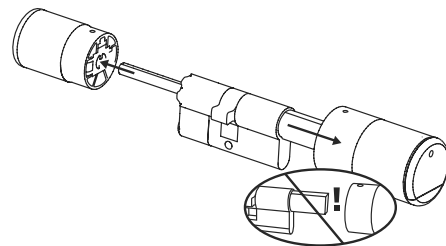

Fig. 3
- 3 Pull off the knob on the outside completely and pull the knob on the inside as far back as possible (Fig. 3).